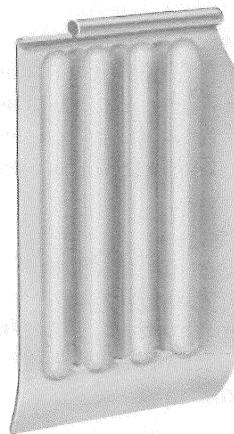

Fig. 63—P-296792 Coin Shield
- (1) Place P-247411 pin through tubular bearing at top of P-296792 shield. Curved-in portion on bottom of shield is toward hopper when loop of pin is to be the front (see Fig. 63).
- (2) Hold loop of pin with long nose pliers or fingers and place coin shield pin in hole in rear of hopper.
- (3) Hold shield in place with fingers and secure end of loop in front hole of hopper with long nose pliers.
- (4) Adjust loop so that pin does not come out when play is taken up in either direction.
- (5) Check operation of shield.
6.125 The coin relay must be protected by a shield. The P-16A336 shield replaces the P-349486 (MD) and KS-7994 (MD) shields and should be used for all replacements.